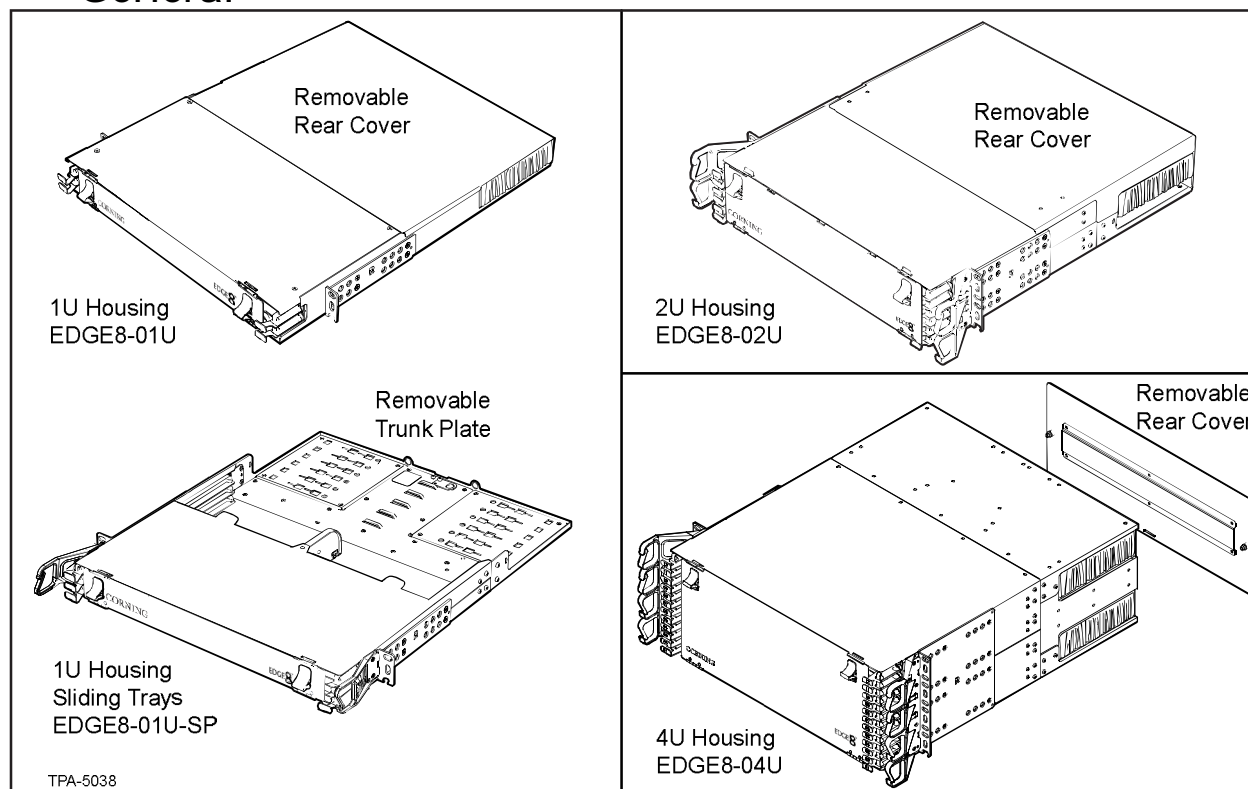

Figure 1 — EDGE8™ Housings
This document describes installation of the EDGE8™ 1U, 1U-SP, 2U, and 4U Housing Solutions (Figure 1). Except where installation of another housing is unique, only the 4U housing is illustrated.
Step 1: Remove the access or rear cover from the housing to reach the backplate (Figure 1).